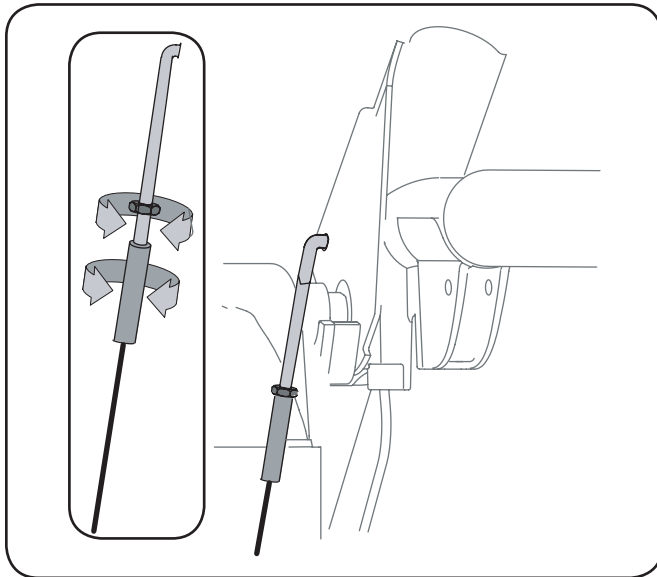

Figure 6-6
6. Thread the ferrule without turning the cable onto the “Z” fitting until there is no slack in the cable. See Fig. 6-6. Do not overtighten the cable. Hold the flats on the ferrule with pliers and tighten the jam nut against the ferrule.
8. Retighten the hex jam nut. See Fig. 6-6.